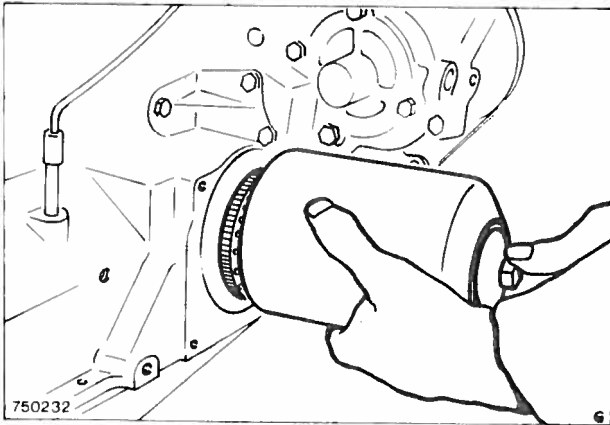

Fig. 52 Fitting the oil filter assembly
55. Using a suitable hand syringe, pump a minimum of 1,14 litre (2 pint) of the correct specification engine oil, into the main oil gallery, through the oil filter centre oilway. Fit the oil filter assembly, Fig. 52, using a new element. Replace the dipstick. Fill the engine to the specified level with the correct engine oil.